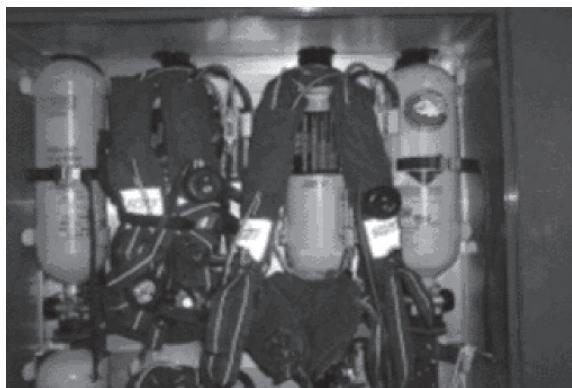

Figure E-2. Once Placed in the Clasps, the SCBA Should Look Like the Unit on the Right
- b. Extend the shoulder and waist straps on the SCBA and ensure the retention strap in the stowage assembly rests outside the cylinder clasps. To secure the SCBA in the clasps, grasp the wireframe through the shoulder straps and rest the cylinder valve on the bracket hang plate. Then, gently push the cylinder into the clasps as shown in figure E-2.